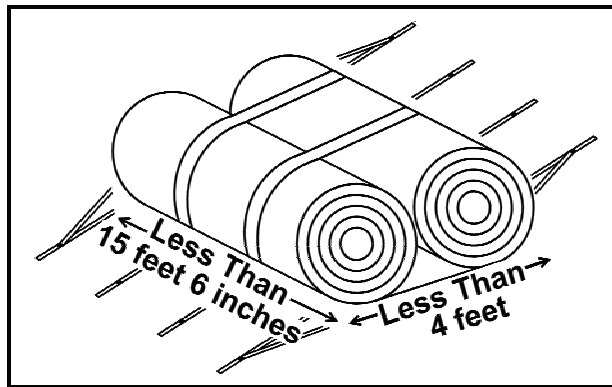

Figure 11. Rolled tank.
12. Secure the tank with ratchet straps, then wrap the tank in its packaging material ensuring to fully cover the tank (Figure 11).